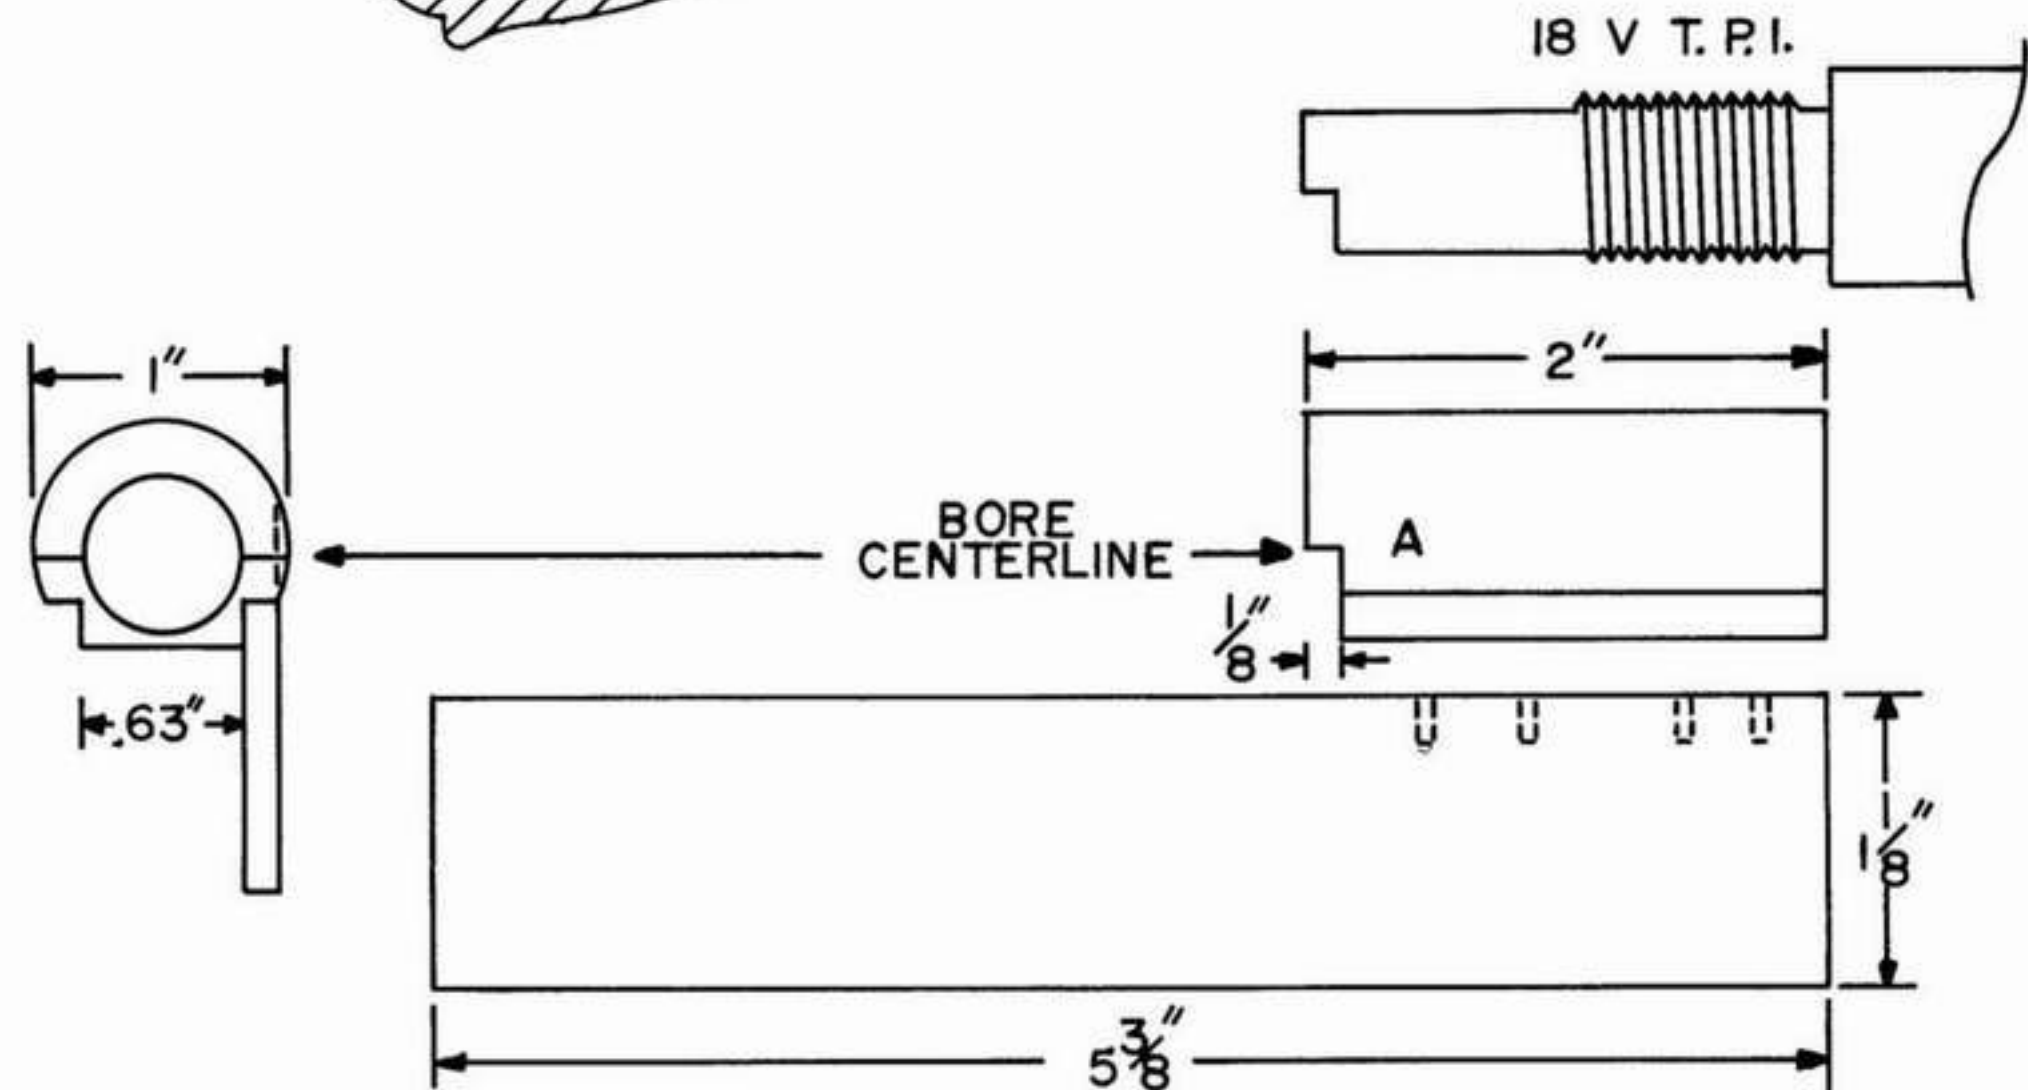

Fig. 4-5 RECEIVER PARTS
ASSEMBLING THE RECEIVER (see Figs. 4-5, 4-6)
Before attaching the receiver sides to the receiver ring it is recommended that you spot and drill the hinge pin hole in one of the sides. Do this by clamping one side and the receiver ring together on a board or metal plate with the front of the receiver ring flush with the front of the receiver side. In the sectional view drawing (Fig. 4-2) you will note that the stem of the extractor and the breech block face plate (7) fit between the breech block and the receiver ring. Therefore, to spot and drill the hinge pin hole accurately position pieces of metal of the thickness of these two parts, or better yet, the pieces of metal that you will use for these parts (1/8" for the face plate and 7/64" for the extractor stem) in place, clamp the breech block side in place and drill the hinge pin hole using the hole already in the breech block side as the guide. Now you are ready to assemble the receiver sides to the receiver ring. We recommend silver brazing using the silver-solder wire. You will have to figure out a way of holding the three parts together and aligned so that the brazing is made sure and easy. We do it by using three C-clamps and two spacers. The spacers must be the same width as the distance between the grooves in the receiver ring for the receiver sides, or .630-.635". Make them from a piece of 1/4" or 3/8" steel pipe. If you have already made the tang (33) then it can be used as a spacer. Place one spacer at the lower edge of the receiver below the receiver ring with a clamp to hold the receiver sides in proper place on the receiver ring. Use another clamp from the top of the receiver ring to the bottom of the receiver to hold the three parts together in that direction. Place the second spacer at the rear of the receiver and clamp it in place. Vise-grip welding clamps can be used instead of the C-clamps. When you are assured that whatever clamping arrangement you want to use will work, disassemble the parts, clean the areas where the silver-solder must go, spread on a thin even layer of flux, insert the pieces of silver solder wire into the holes in the receiver side as shown in Fig. 4-5, reassemble and then apply heat from an oxy-acetylene torch until the silver solder has flowed entirely throughout both joints. Be sure that the extractor cut in the receiver ring is to the rear. The tang must not be brazed in until the breech